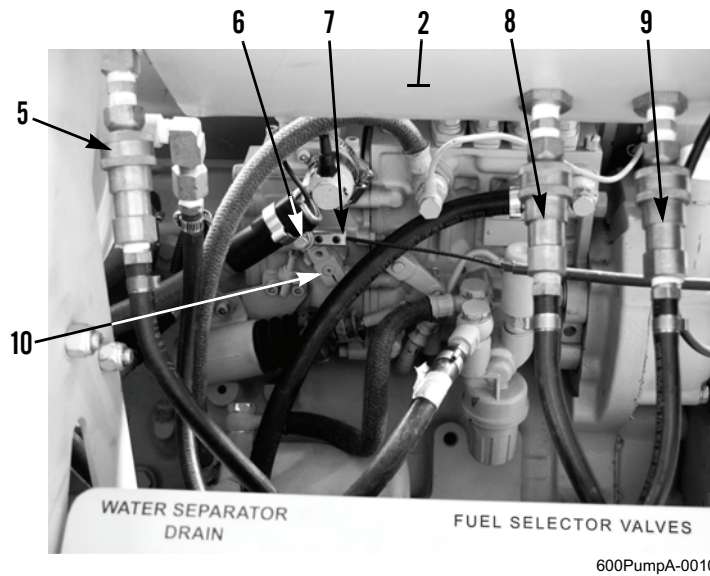

Figure 7. Hose Couplers and Throttle Linkage.
5. Install throttle linkage cable (Figure 7, Item 7) on fuel injector pump linkage (Figure 7, Item 10) with bolt (Figure 7, Item 6).
6. Connect hose coupler (Figure 7, Item 9) to fitting on bottom of control panel box (Figure 7, Item 2).
7. Connect hose coupler (Figure 7, Item 8) to fitting on bottom of control panel box (Figure 7, Item 2).
8. Connect hose coupler (Figure 7, Item 5) to fitting on side of control panel box (Figure 7, Item 2).